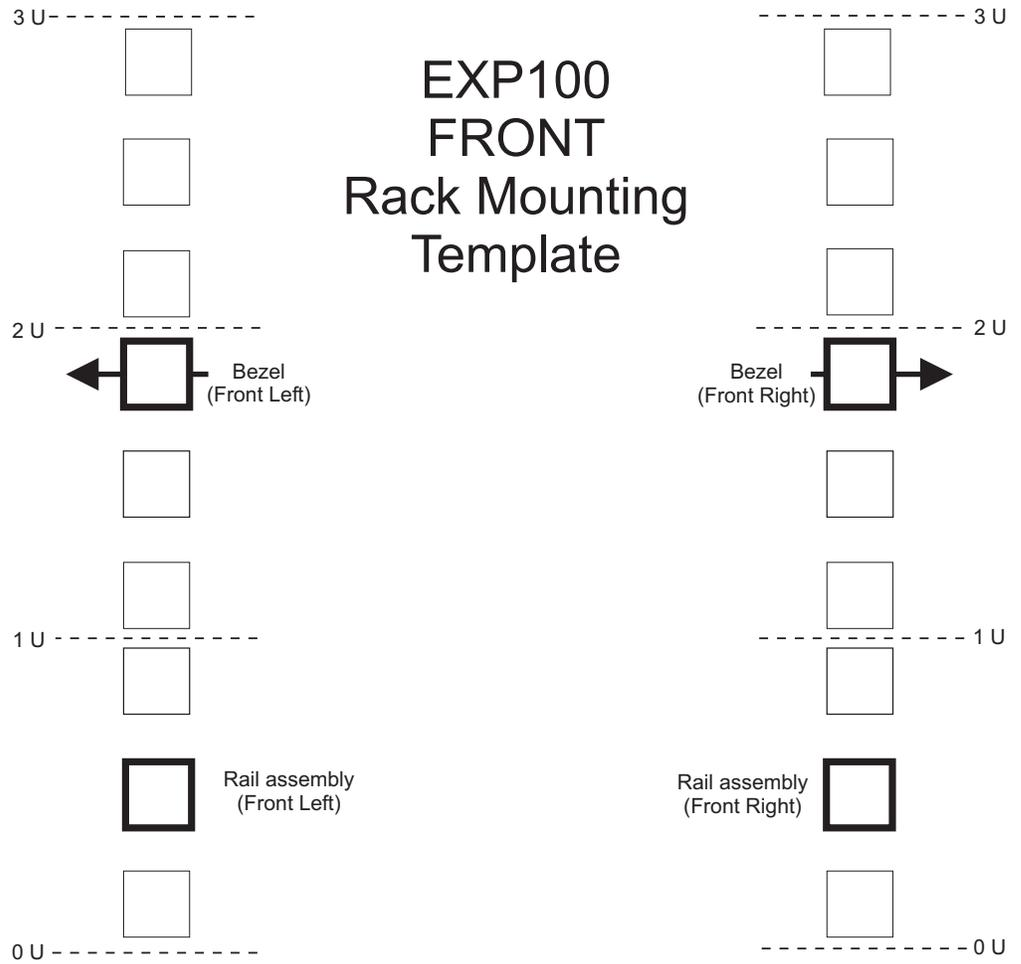
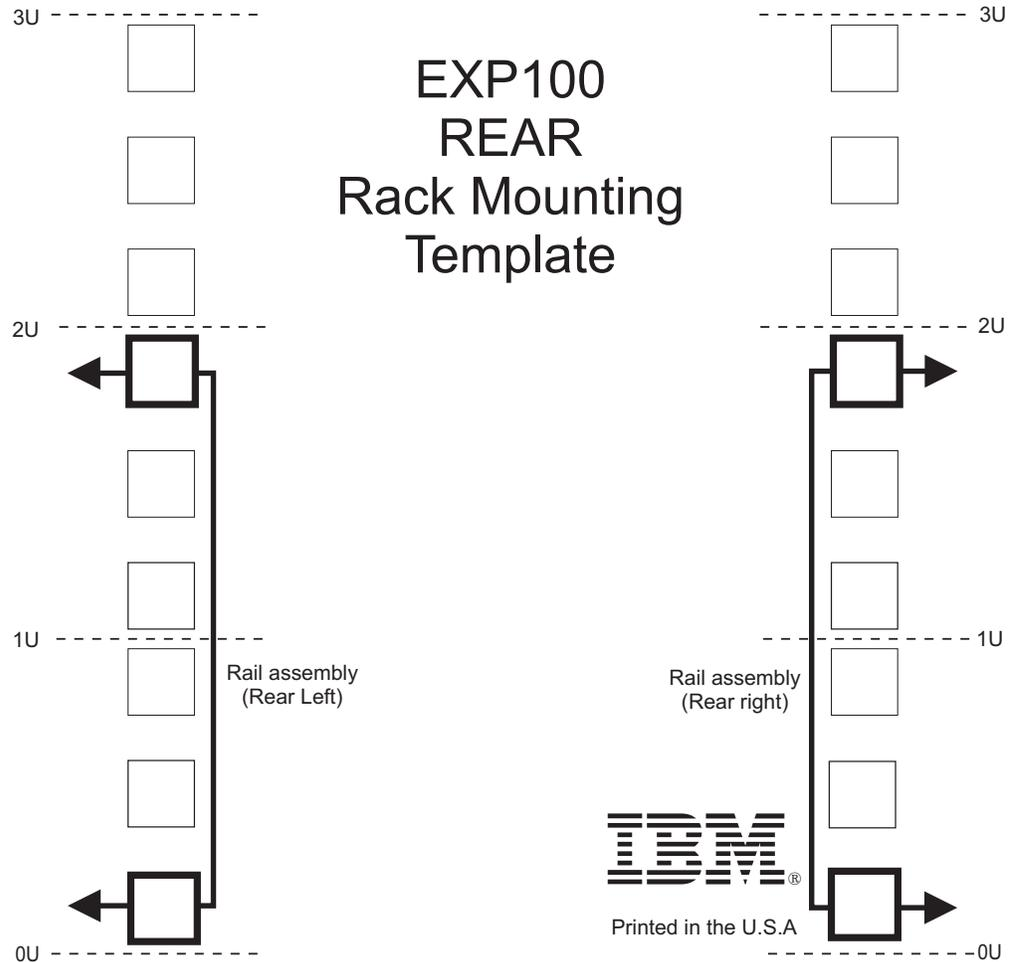

Figure 14. Front rack mounting template
Figure 15. Rear rack mounting template
Use the following templates (Figure 14 on page 33 and Figure 15 on page 34) to identify the proper locations for inserting M6 screws when mounting the support rails and EXP100 to a rack. The locations for the M6 screws are highlighted in the templates.
**Attention:** Use the rack mounting template provided in Figure 14 on page 33 and Figure 15 on page 34 to locate the proper rack mounting holes for installing the support rails into the rack.
6. Hold the front of the rail against the inside of the right rack-mounting flange and loosely tighten the lower M6 screw ( **4** ). See Figure 14 on page 33 for the location for this screw.
8. From the rear of the rack, thread and tighten two M6 screws ( **1** ) (see Figure 15 on page 34 for the location for these screws). From the front of the rack, finish tightening the front M6 screw ( **4** ).